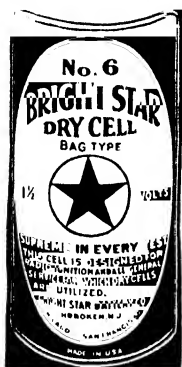

Fig. 10. No. 6 Dry Cell
**BATTERY CURRENT—ELECTRICAL CURRENT BY CHEMICAL ACTION.** You no doubt are familiar with the battery or dry cell used in radio work Figs. 10 and 11, or the small one used in the flashlight, Fig. 12. This type of dry cell produces a fixed voltage regardless of its size. The maximum voltage of any single cell is  $1\frac{1}{2}$  volts. Some flashlights are powered with two-cell and some with three-cell batteries.